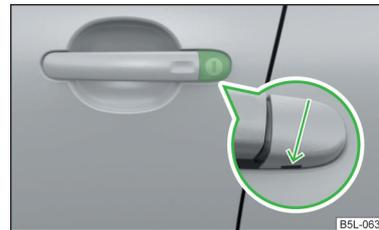

Fig. 187
- Insert the vehicle key into the slot on the bottom of the cover in the arrow area » Fig. 187.